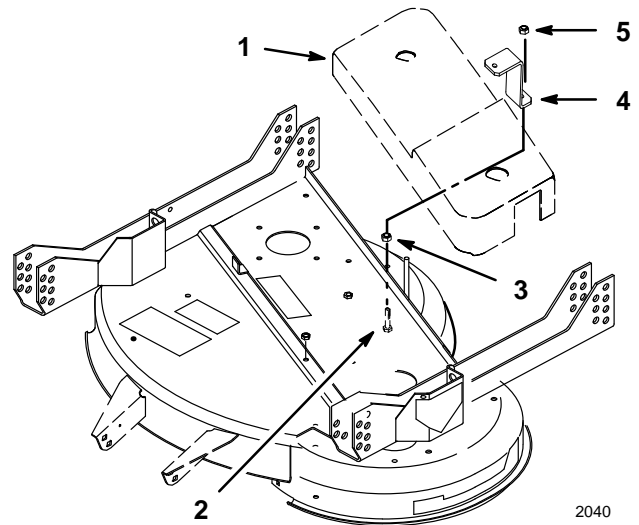

Figure 3
1. Remove existing bolt securing kicker at center rear of mower. Replace with longer 5/16–18 x 1-1/4 (32 mm) bolt from kit. Insert from inside mower and secure with 5/16 nut (Fig. 3).
2. Position hold-down over bolt at the rear and to the right of the step on belt guard (Fig. 3). Secure hold-down with 5/16 thin lock nut (Fig. 3).